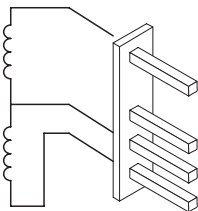

Figure 11.4
- 3 Measure the electrical resistance between the connector pins of the on-off operators as illustrated in Figure 11.4.